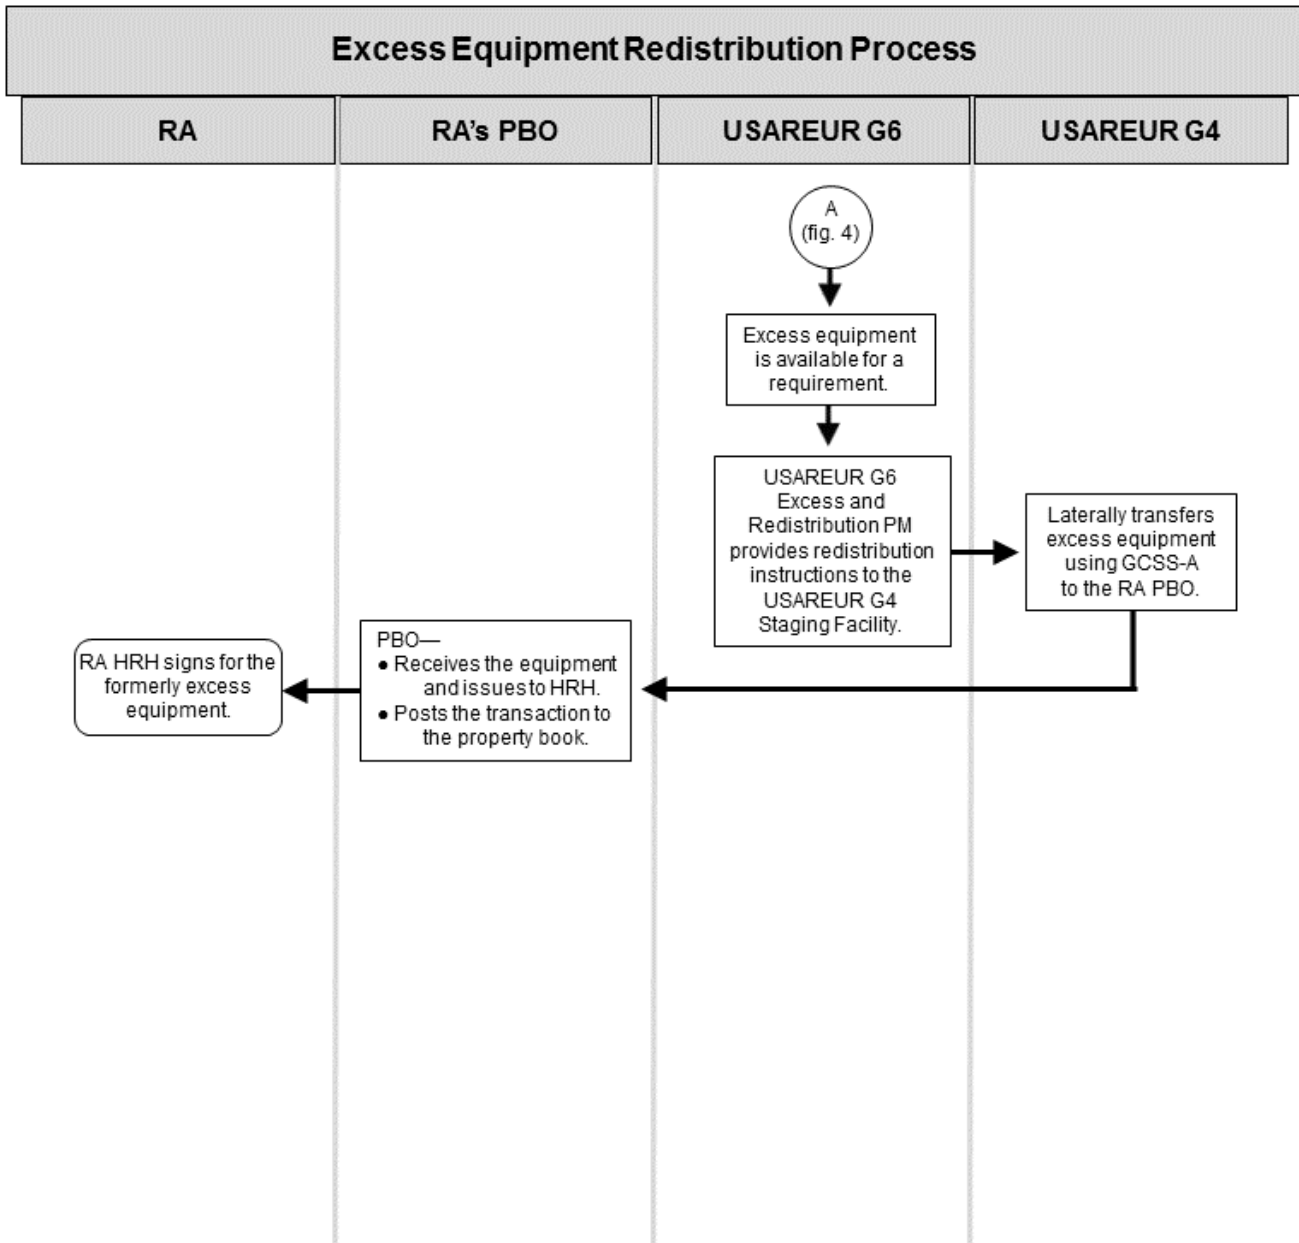

Figure 9. Excess Equipment Redistribution Process
a. Process Overview. USAREUR G6 PMs will review and screen available excess equipment and provide redistribution instructions after requirements are identified on the ATOE. Unit PBOs need to contact the USAREUR G4 Staging Facility to obtain excess equipment after the USAREUR G6 PMs approve. Figure 9 shows the steps in the excess-equipment-redistribution process.
(1) Units will follow the procedures in section II to identify requirements in ATOE documents. If not already identified on an approved ATOE, the unit must send a requirement-change-request memorandum through their USAREUR MSC S6 or G6 to obtain USAREUR G6 approval for increasing their ATOE.
(2) The USAREUR G6 Excess and Redistribution PM will review available excess equipment and provide redistribution instructions to the USAREUR G4 Staging Facility, USAREUR MSC S6s or G6s, and the applicable PBO.